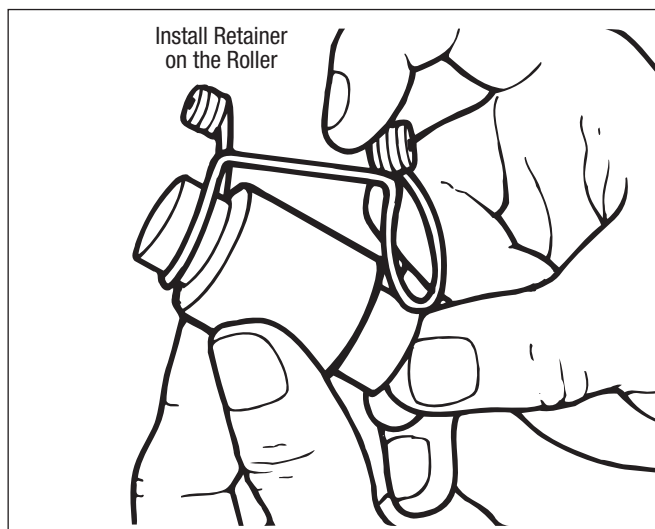

Figure 66 – Roller Retainer Installation
7. Assemble the roller retainer on the ends of the roller as shown below. **NOTE:** Be sure to lubricate the roller pockets on the shoe before installing the roller. Refer to Figure 66.